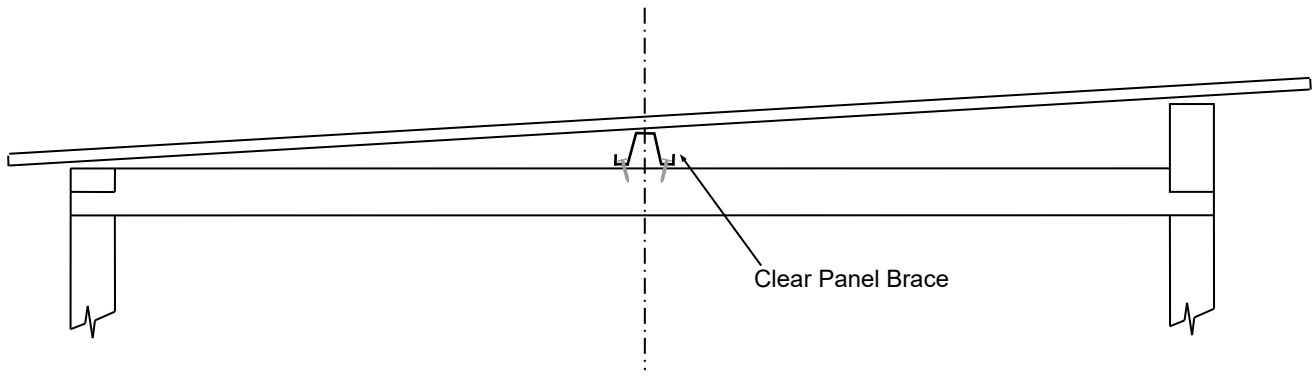

fig. 2
Step 2: Select Back and Front Base Plates 2.310m (Green), Back Top Plate 2.310m (Red) and Front Top Plate (90x45mm). With one End Frame lying on the ground, nail plates to frame, two 75mm nails per joint. Ensure Green joins to Green and Red joins to Red. See (**fig. 2**) for nailing detail on Top Front Plate (90x45mm).
Step 1a: Pre-drill two holes at both ends of Clear Panel Brace. Position Clear Panel Brace centrally on Top End Plates and nail in place using two 30mm clouts each end (**fig. 2**).